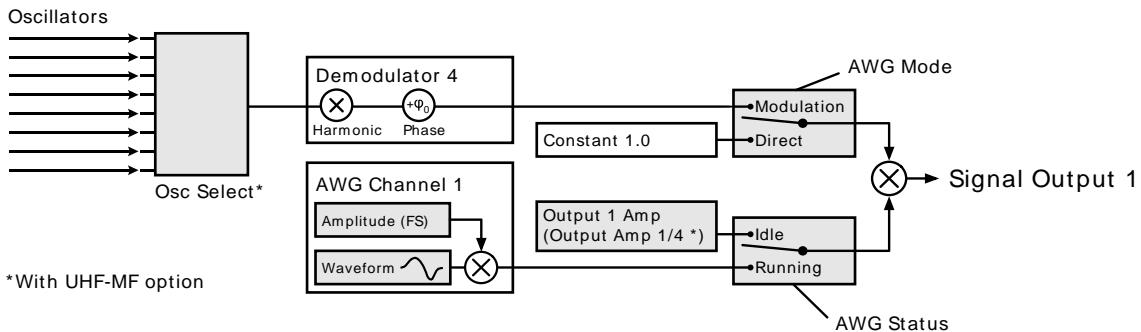

Figure 4.46. Amplitude modulation block diagram for AWG channel 1
The generation of the modulated signal depends on the settings made in the Lock-in tab. Figure 4.46 shows how the signals are routed internally on their way from the oscillators and the AWG to the Signal Outputs. There are two switches in the diagram. The upper switch is related to the AWG Mode selection. In Modulation mode, the signal coming from the AWG unit 1 (2) is multiplied with the oscillator signal of demodulator 4 (8). The phase and harmonic of the oscillator signal can be adjusted in the Lock-in tab. In Direct mode, the AWG signal is multiplied with a constant 1.0, in other words, it remains unchanged. The lower switch is related to the running state of the AWG, i.e., the **Run/Stop** and **Single** buttons. When the AWG is idle, the Output Amplitude setting from the Lock-in tab takes the place of the AWG signal. This is the standard configuration for lock-in measurements. It is furthermore useful for defining the voltage appearing on the Signal Output when the AWG is off. The UHF-MF Multi-frequency option provides additional oscillators as well as an Oscillator Select switch matrix at the input of the demodulators, enabling the use of up to 8 independent frequencies for modulation. The Register values may be used as integer variables inside a sequence program, for instance to vary a delay between pulses manually or with the Sweeper.